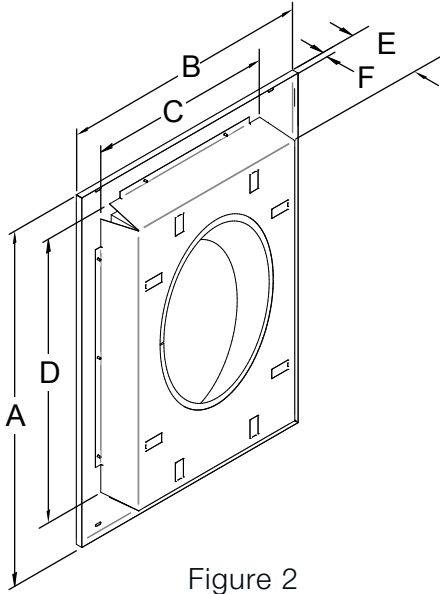

Figure 2
5. Insert the radiation shield **(C)** in the opening. Using the 4 supplied screws **(B)**, fasten the radiation shield in the framing while making sure not to flatten the 1/2" flange. (See letter «F», Figure 2)